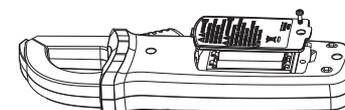

fig. 6
2.Battery Replacement (fig. 6)